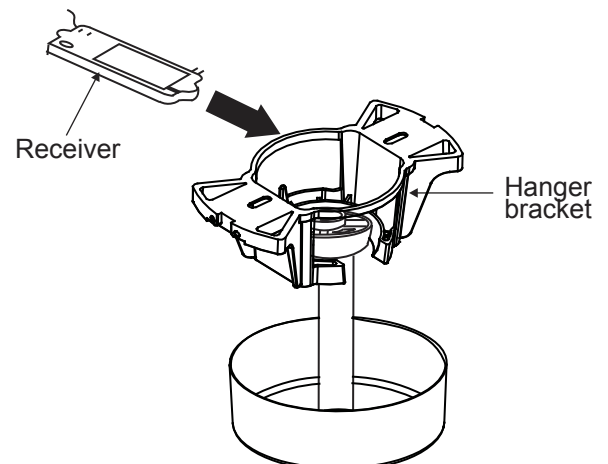

Fig. 14
Step 1. Insert the receiver into the ceiling mounting bracket with the flat side of the receiver facing the ceiling. (Fig. 14)